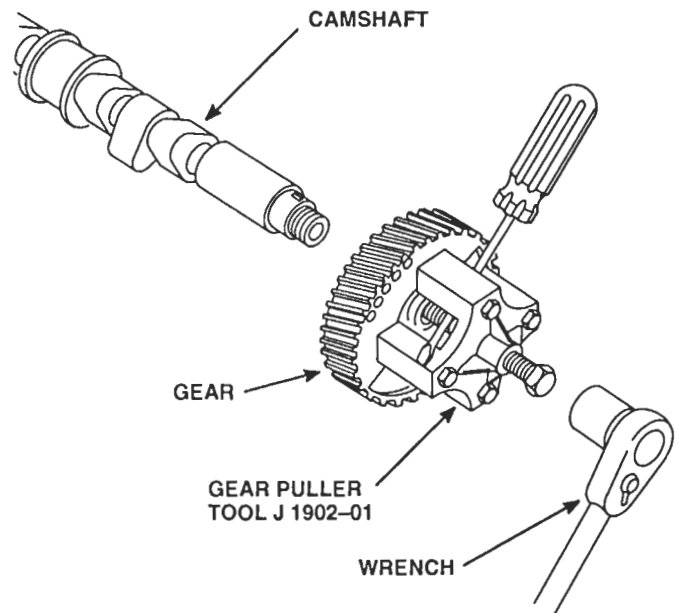

Figure 6. Removing Camshaft with Camshaft or Balance Shaft Gear Puller
11. Install the camshaft gear puller J 1902-01, four spacers, J 6202-2 and camshaft gear puller adaptor plate J 6202-1 on the camshaft gear (Figure 6.)